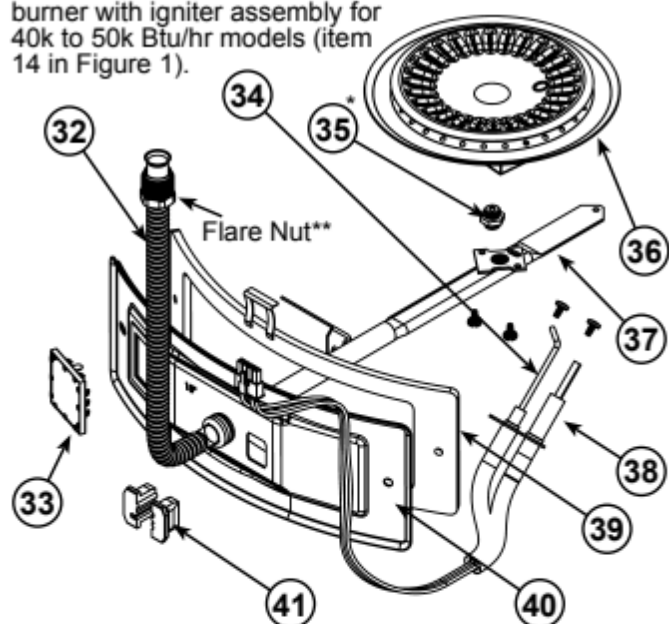
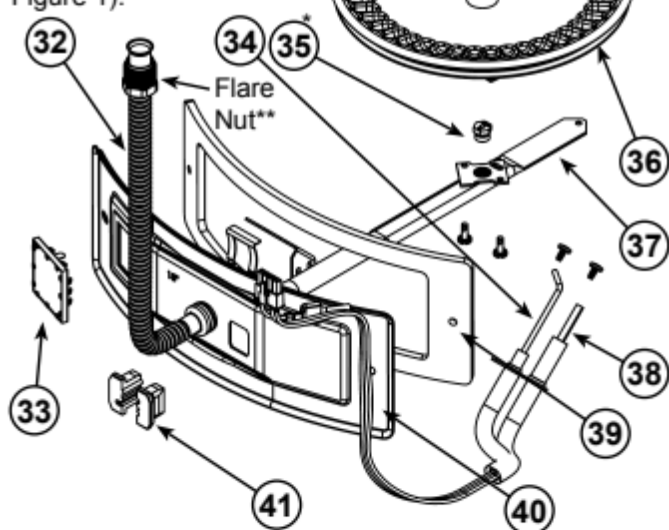

Figure 59.
Figure 60.
- 14 Manifold Door Assembly (behind outer door) (see Figure 3 & Figure 4) (see also Figure 59 and Figure 60)
- 32 Flexible Manifold Tube (see Figure 3 & Figure 4) (see also Figure 59 and Figure 60)
- 34 Flame Sensor Rod (see Figure 3 & Figure 4) (see also Figure 59 and Figure 60)
- 35 Gas Orifice (see Figure 3 & Figure 4) (see also Figure 59 and Figure 60)
- 36 Sheet Metal Burner (see Figure 3 & Figure 4) (see also Figure 59 and Figure 60)
- 37 Gas Manifold (see Figure 3 & Figure 4) (see also Figure 59 and Figure 60)
- 38 Hot-Surface Igniter (see Figure 3 & Figure 4) (see also Figure 59 and Figure 60)
- 39 Manifold Door Gasket (see Figure 3 & Figure 4) (see also Figure 59 and Figure 60)
- 40 Manifold Door (see Figure 3 & Figure 4) (see also Figure 59 and Figure 60)
- 41 Two Piece Grommet With Clip (see Figure 3 & Figure 4) (see also Figure 59 and Figure 60)